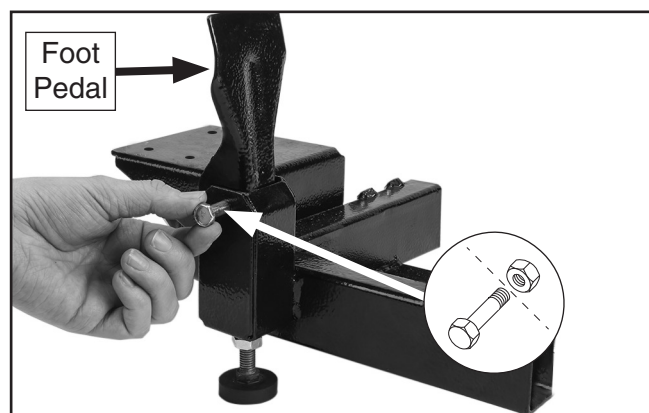

Figure 13. Attaching foot pedal to corner.
2. Attach each foot pedal to front corner bracket using (1) M8-1.25 x 52 shoulder bolts and (1) M8-1.25 lock nuts (see **Figure 13**).